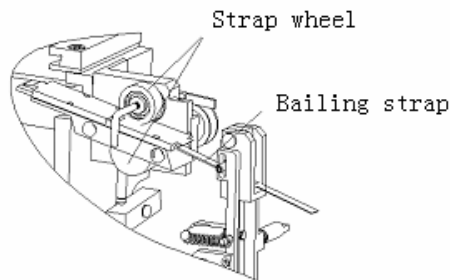

Fig4-3
- ② After the strap head is pulled out from the upper opening of the strap storehouse, inserted into the strain swing rocker shown as Fig 4-3 and passes through two tape wheels. At this time turn button 3 on the control panel to the position of “SEND” and the bailing strap will be full of strap path. Thus strap-transporting is finished and preparation of bailing is ready.